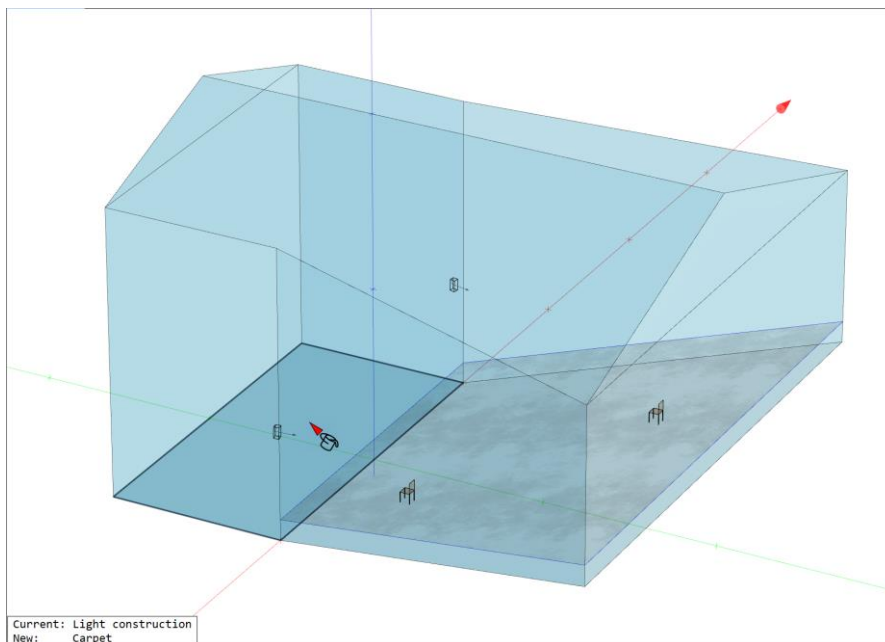

Figure 7.36 Replacing the material assigned to a face. The status text in the lower left shows the current material as well as the new one.
1. If there are no faces currently selected when you choose an item from the list, the drop-down will be removed and the mouse cursor will change to a paint bucket. In this mouse mode, materials can be assigned to faces by selecting the faces in the 3D view (Figure 7.36). Note that when hovering over a face the status text will show the previous material and the new material.